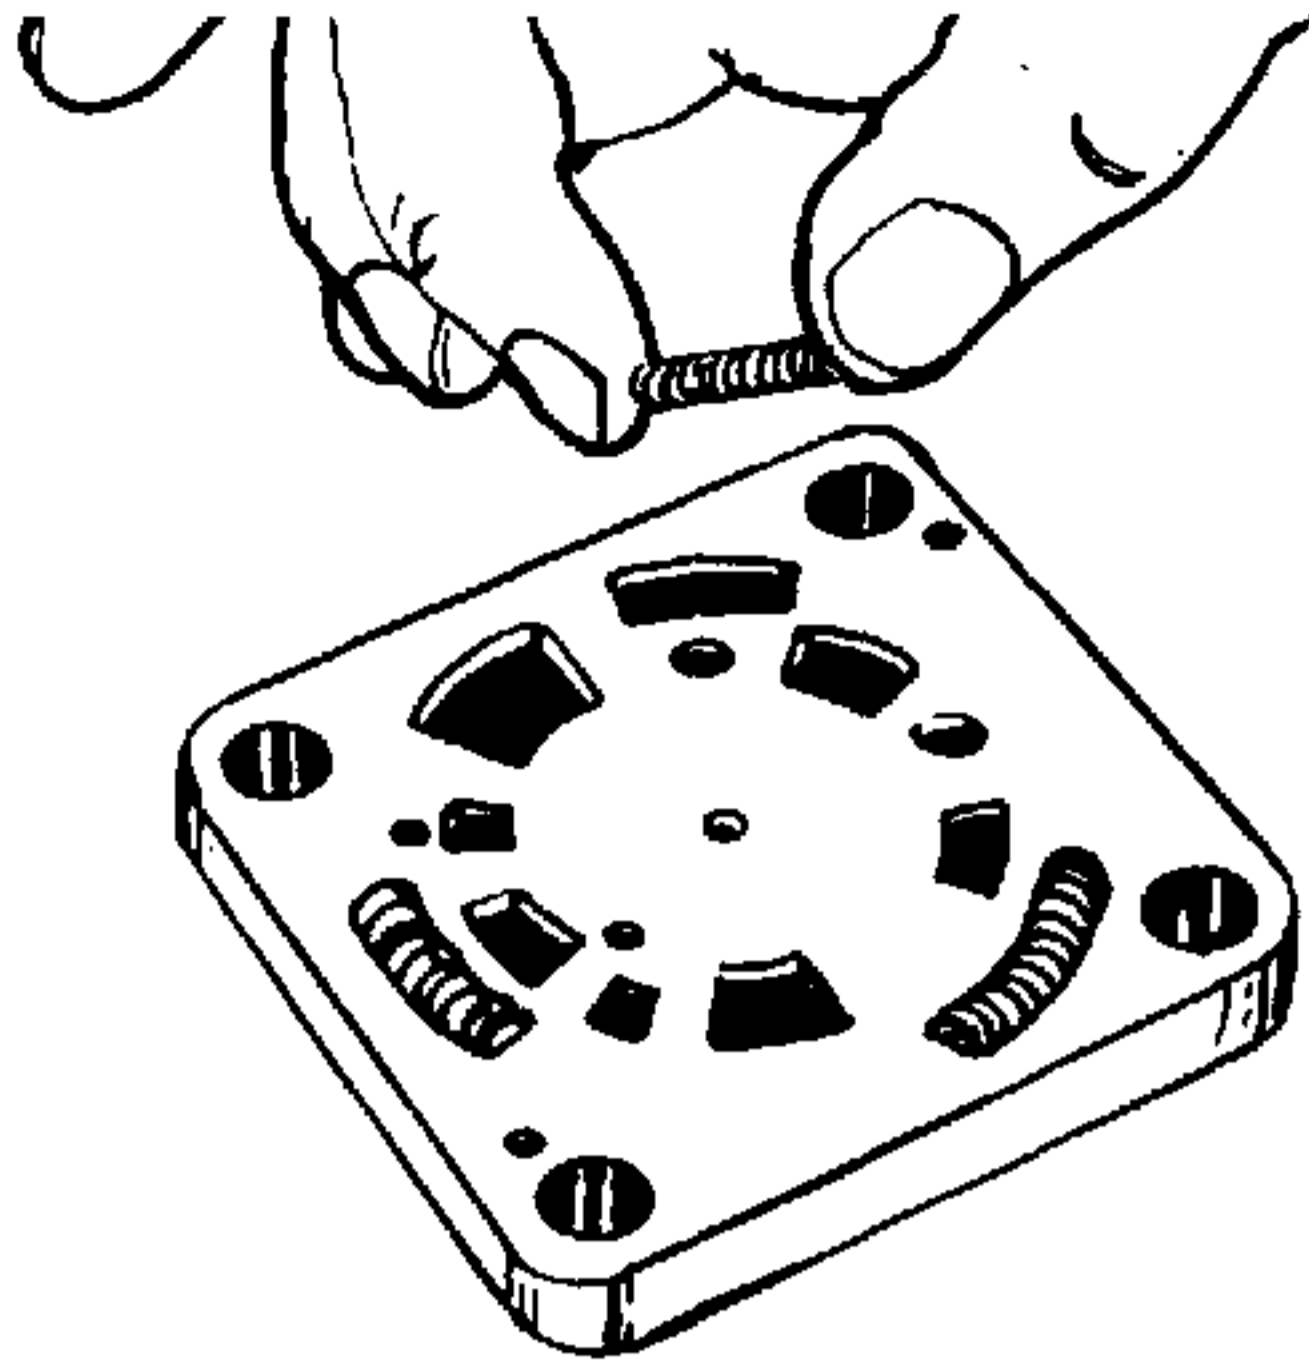

Figure 4-85. Installing 3/4-inch Springs.
37. Place port manifold (6, Figure 4-1) valve side up on a clean surface. Install three 3/4-inch (19 mm) springs (7) into the spring pockets. See Figure 4-85.